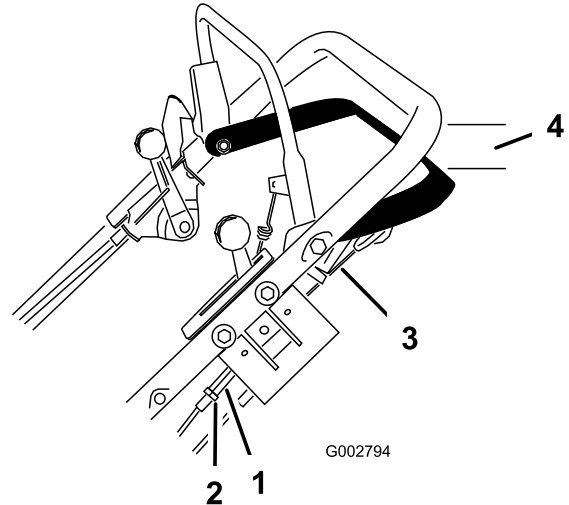

Figure 28
1. Loosen the nut that secures the turnbuckle (Figure 28).
2. Turn the turnbuckle until you remove the slack in the exposed cable (Figure 28).